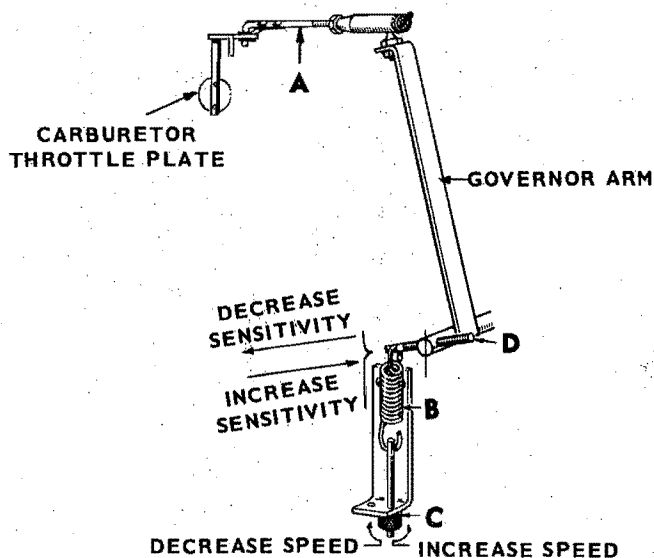

FIGURE 10. GOVERNOR ADJUSTMENT
With the set stopped, the length of linkage "A" must (with tension on spring "B") allow the carburetor throttle stop lever to just clear (maximum 1/32 inch) the carburetor body (Figure 10). Alter linkage length by turning the ball joint on the threaded rod. Run the set (under load) to thoroughly warm it up.
1. **Alternating Current Set:** Connect a voltmeter across the generator output. With the set operating at no-load, adjust the speed nut "C" (Figure 10) for a voltmeter reading of 126 volts for 120 volt sets (252 volts for 240 volt sets). Voltage should not fall below 108 volts for a 120 volt set (216 volts for a 240 volt set) under full rated load.
3. **Battery Charging Set:** Turn speed nut "C" (Figure 10) to give the desired charge rate. Normal speed, as specified on the nameplate, is approximately 2400 rpm. If the charge rate tends to "taper off" too soon, turn the sensitivity screw "D" clockwise. If the charge rate is unsteady, turn the sensitivity screw "D" counterclockwise.